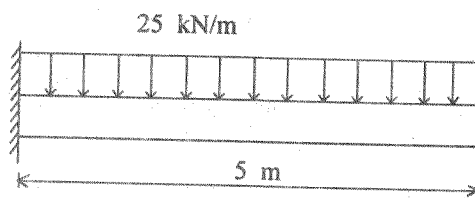

Fig. 3
13. Determine the deflection at the tip of the cantilever for the beam shown in Fig. 3. Take  $I$  of the beam  $= 120 \times 10^{-6} \text{ m}^4$ ,  $E = 200 \text{ GPa}$ .